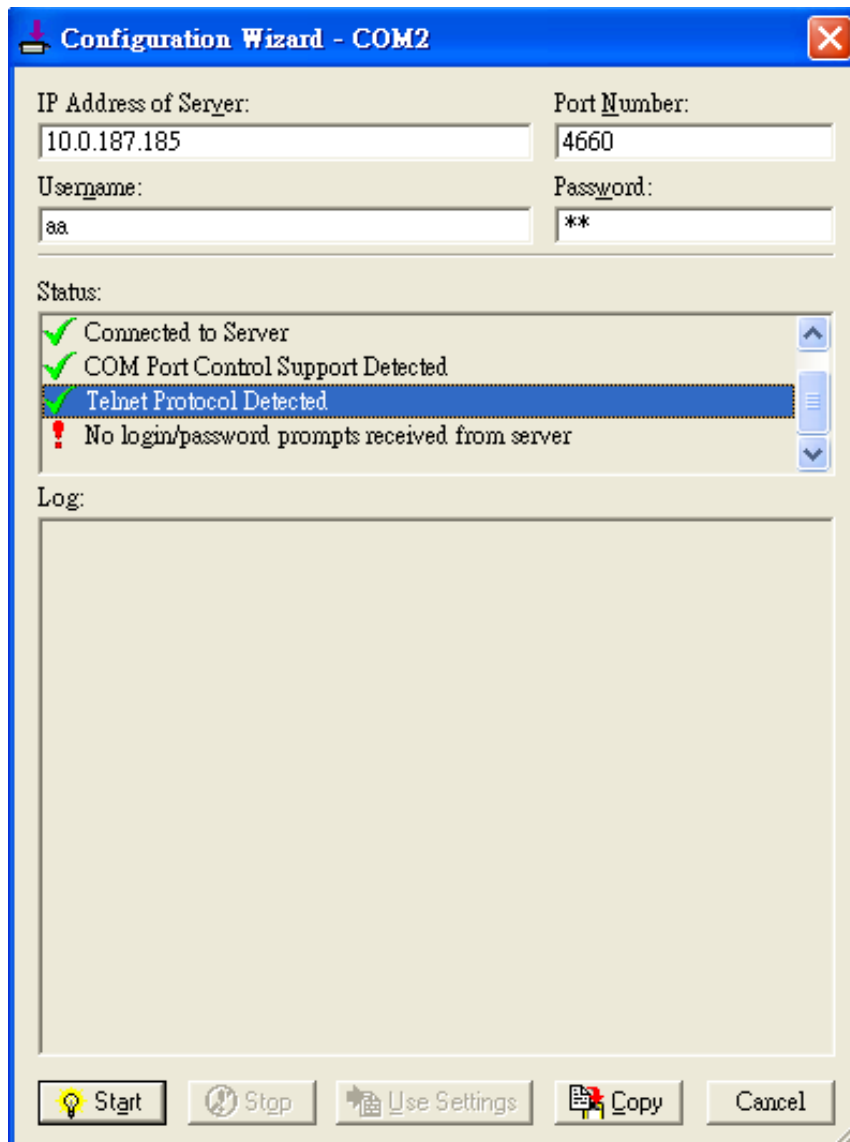

Figure 6.16 VCOM Authentication failed due to disabled VCOM Authentication on PS4000/8000/16000
- If the status reports with an exclamation mark with a message “No login/password prompts received from server” as shown in Figure 6.16. This means that the **User Credentials** option in the Serial/IP utility software is enabled but the VCOM Authentication option in the serial device server (i.e. PS4000/8000/16000) is not enabled. Please enable the **VCOM Authentication** option on the PS4000/8000/16000 by setting a new and non-blank administrator’s Username and Password for PS4000/8000/16000 as described in Section 4.15.2. Note that the **Username** and the **Password** for VCOM authentication are the same username and password of PS4000/8000/16000 Web UI login. The